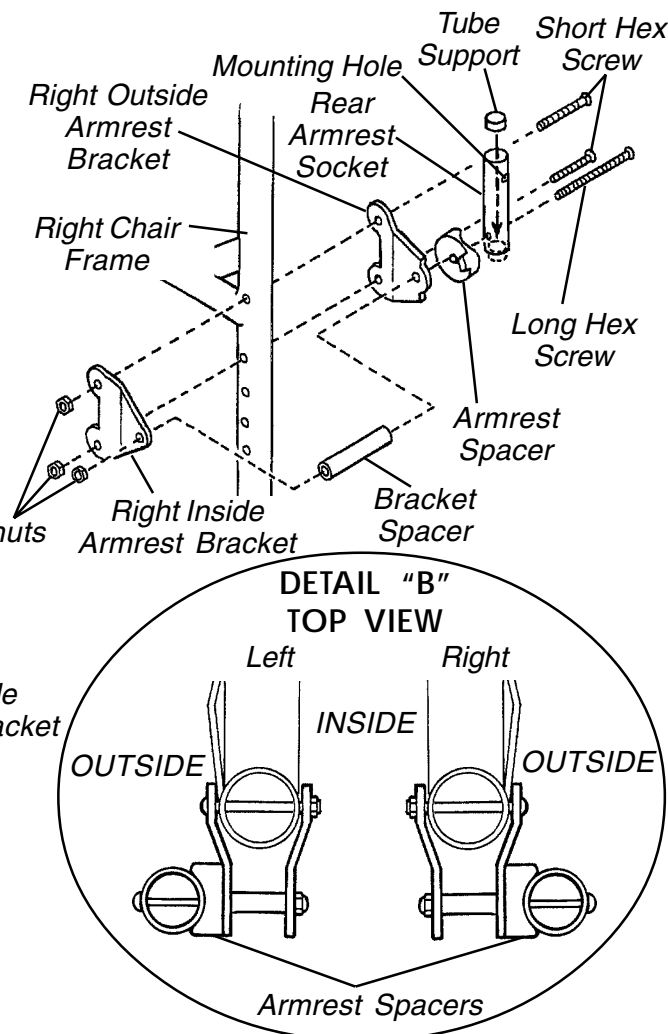

FIGURE 3 - REAR ARMREST SOCKET INSTALLATION - CONVENTIONAL ARMS
## Conventional Armrest Sockets (FIGURE 3)
3. Position the armrest spacer flush against the outside of the outside armrest bracket as shown in "DETAIL A", FIGURE 3.
7. Loosely secure the brackets, armrest socket, armrest spacer and bracket spacer together using one (1) of the two (2) long hex screws and a locknut.